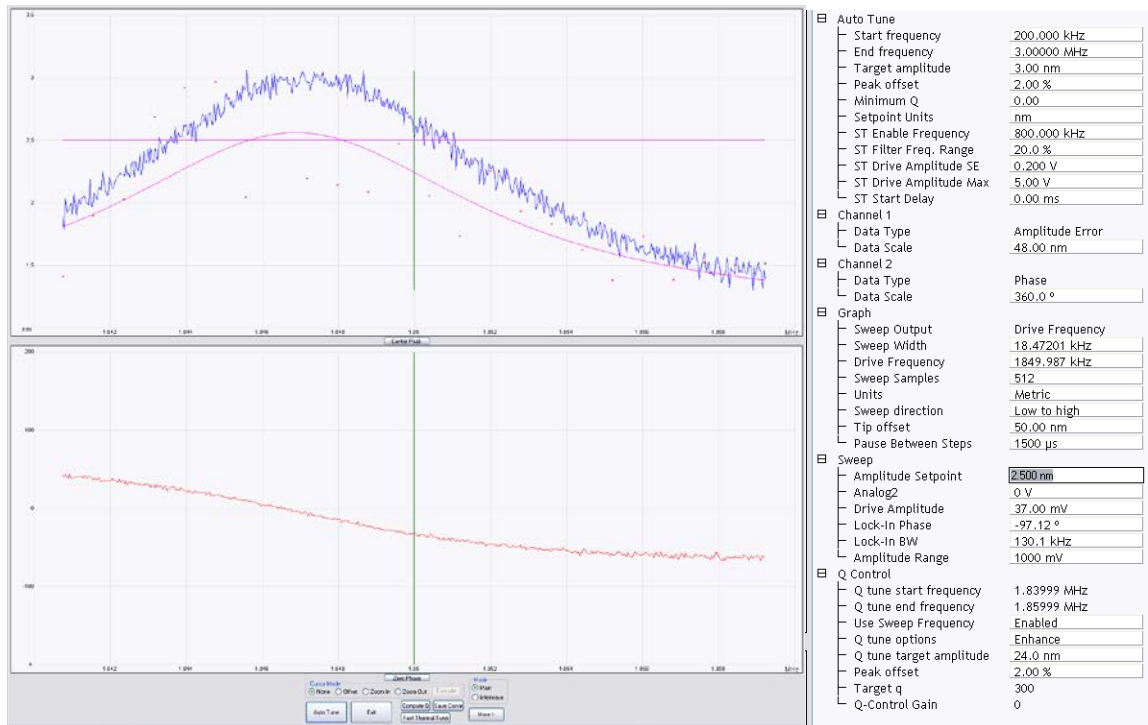

Figure 6. Tuning curve after decreasing the Target Amplitude, selecting the frequency Offset, and setting the Amplitude Setpoint.
- Once the Drive Amplitude and Frequency are set, manually adjust the Amplitude Setpoint until the horizontal pink cursor line demarcating it intersects the tuning curve (blue trace) at the Drive Frequency (green vertical line) chosen in Step 7 above (**Figure 6**).